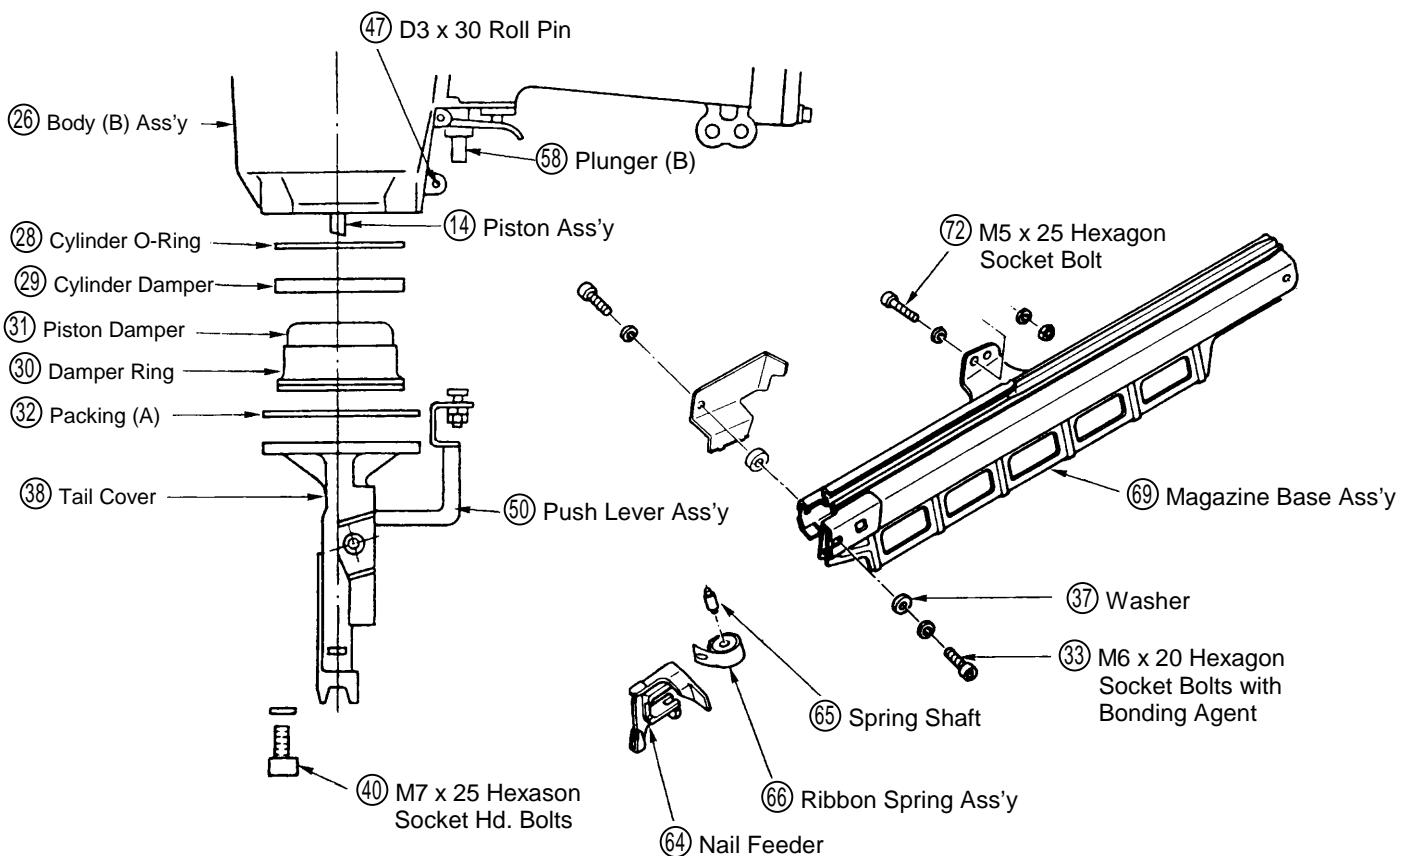
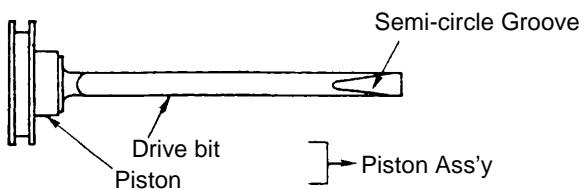

Fig. 7 Disassembly and Reassembly of the Piston Damper, Packing (A), etc.
Fig. 8 Semi-circle groove of piston ass'y
- Ensure that the Piston Ass'y ⑪ is positioned so its semicircular groove faces toward the Magazine side (see Fig. 8 below).
- Plunger (B) ⑤⑧ may drop out during disassembly. Ensure it is properly assembled.
- Assemble the Body (B) Ass'y ②⑥, Tail Cover ③⑧, and Magazine Ass'y ③① in the following manner:
- I) With the Push Lever Ass'y ⑤① properly mounted on the Tail Cover ③⑧ as illustrated in Fig. 7, assemble the Tail Cover ③⑧ to the Body (B) Ass'y ②⑥ with the four M8 x 25 Hexagon Socket Hd. Bolts ④⑩, and tighten them to rated torque (see para. 1-4).
- Ensure that the Piston Ass'y ⑭ is positioned so its semicircular groove faces toward the Magazine (see Fig. 8 above).